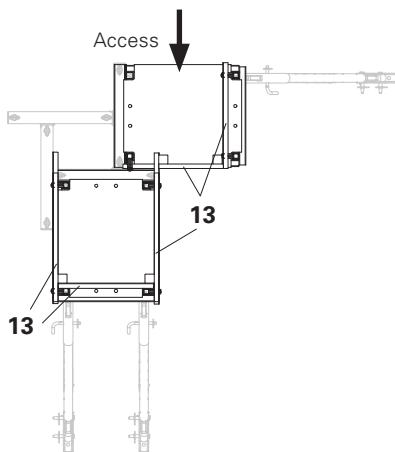

Fig. C1.07a
- Open sides of platform and platform crossings are secured with guardrails (13).
- (Fig. C1.07a – C1.07c)